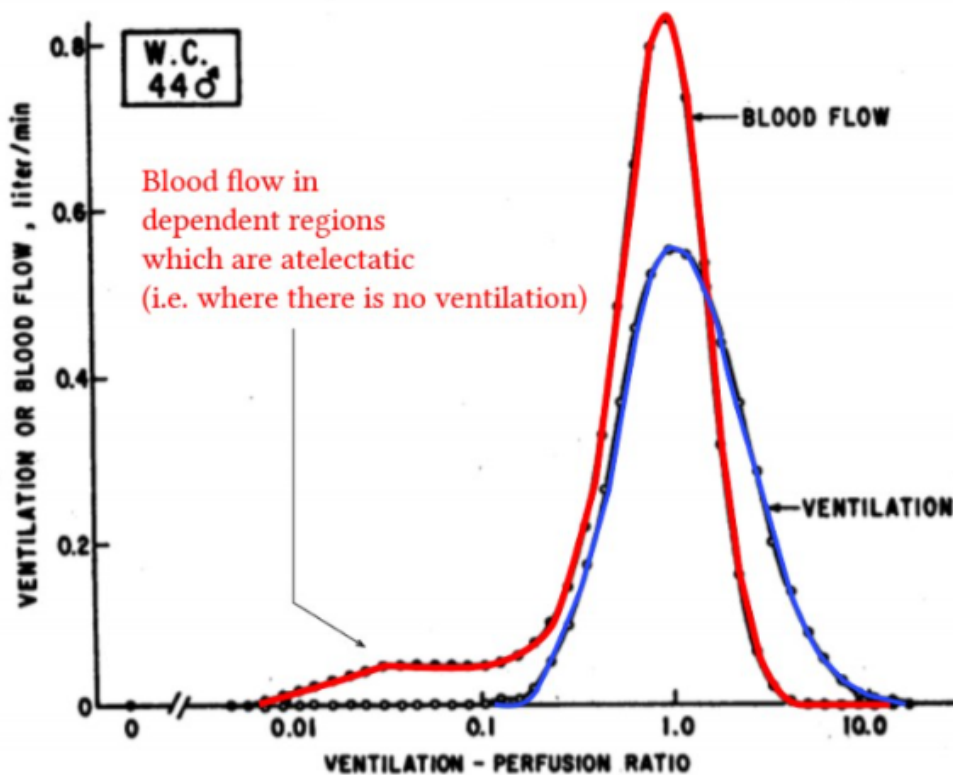
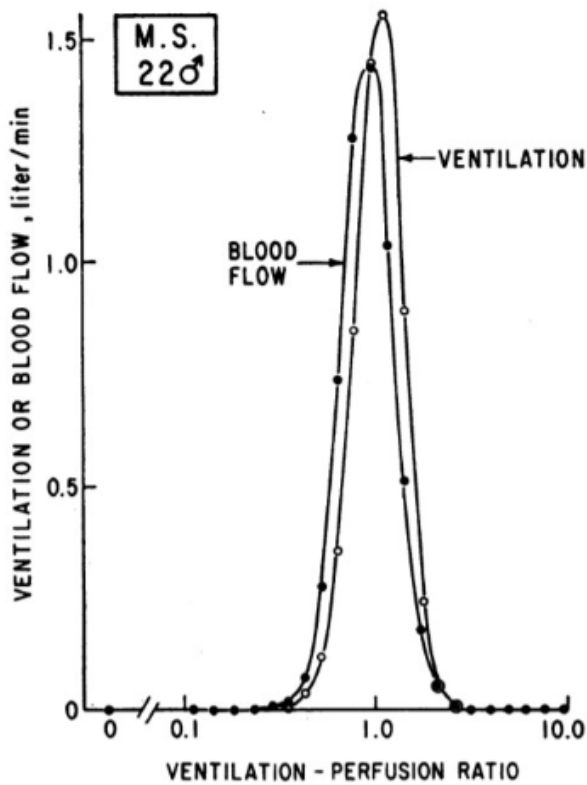

Figure 1. A graph of ventilation and perfusion values over a single lung
Figure 2. Ventilation and blood flow graphs over V/Q ratios
- Figure 1 represents a scatter of a 44 year old male while Figure 2 represents a 22 year old male
In figure 2, the two graphs almost overlap whereas figure 1, the graphs are clearly different - this is mismatching!